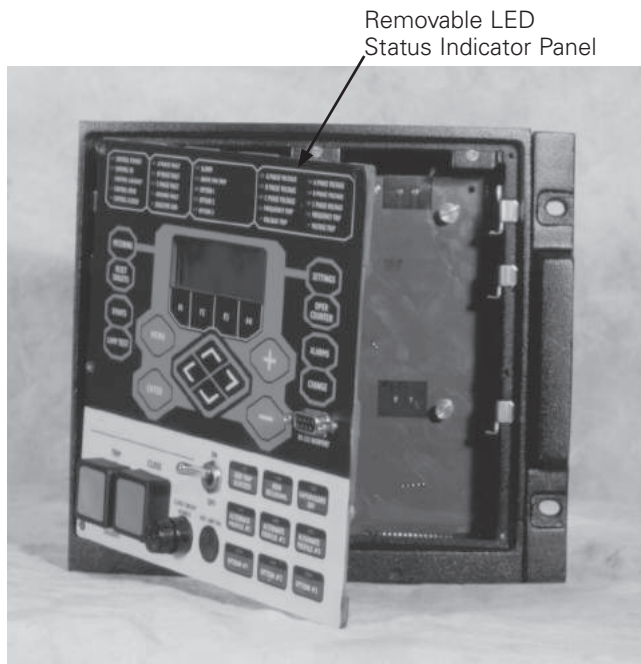
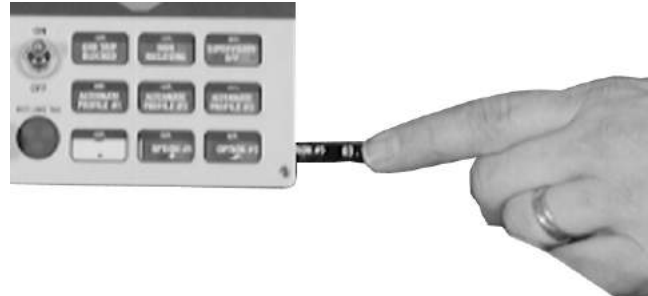

Figure 19. Open front panel. Labels are easily removed from and inserted into the top of the programming panel LED status indicator section
Figure 20. Labels are easily removed from and inserted into the operating panel
3. Pull the right side of the front panel out towards the left (Figure 19).
Note: The insert will slide out of the right side of the operating panel (**Figure 20**).
Note: The insert will slide out of the top of the programming panel indicator section (**Figure 19**).
6. Gently push the removable insert from right to left into the right side of the operating panel (**Figure 20**) or down into the programming panel LED indicator section (**Figure 19**).